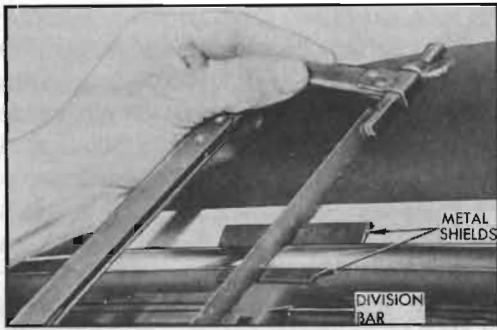

Figure 13-23—Cutting Upper Reveal Molding—2 Piece Windshield
5. If replacing only one glass of a 2-piece windshield, mask the painted surface adjacent to upper reveal molding directly above the windshield division bar, then raise the reveal molding sufficiently to insert small metal protective shields under edges of molding. Using a hacksaw, carefully cut through the flat portion of the molding at the exact center of the division bar. See figure 13-23.